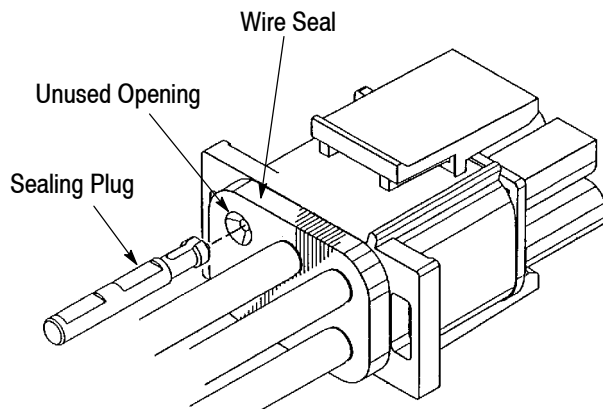

Figure 5
5. Align the split tapered end of the sealing plug with an unused opening in the wire seal. Push the sealing plug through the wire seal and into the housing until it snaps into position as shown in Figure 5. Follow this procedure for all unused openings to provide a water resistant seal between the plug and cap housings. Sealing plugs can be removed from the connector housing. While holding the wire seal, grasp the end of the sealing plug with a pair of needle-nose pliers and pull until it is free of the housing and wire seal.